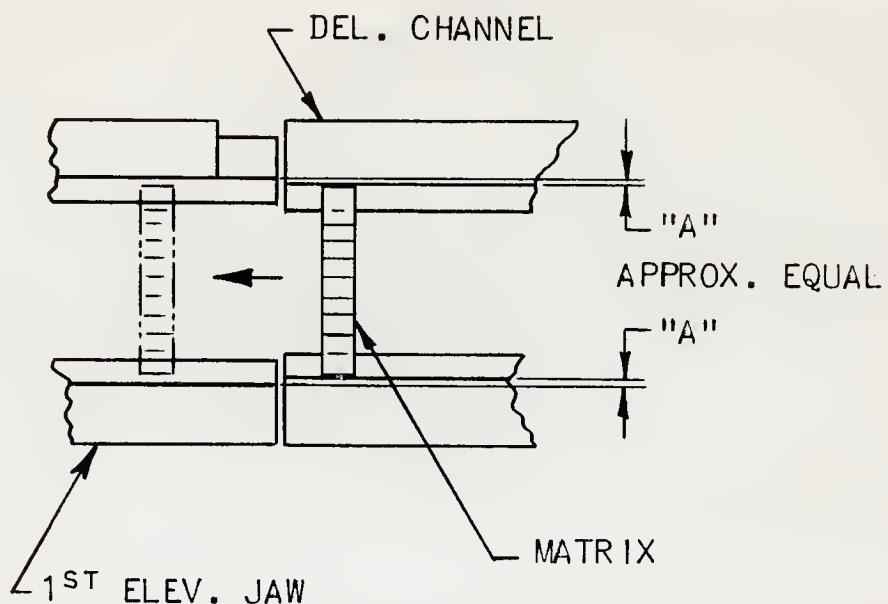

FIG.25
(I) In and Out Alignment of First Elevator Jaw With Delivery Channel (Fig. 25)
If necessary to reposition the delivery channel, remove its two holding screws and adjust the bushings underneath to obtain the condition illustrated in Fig. 25.